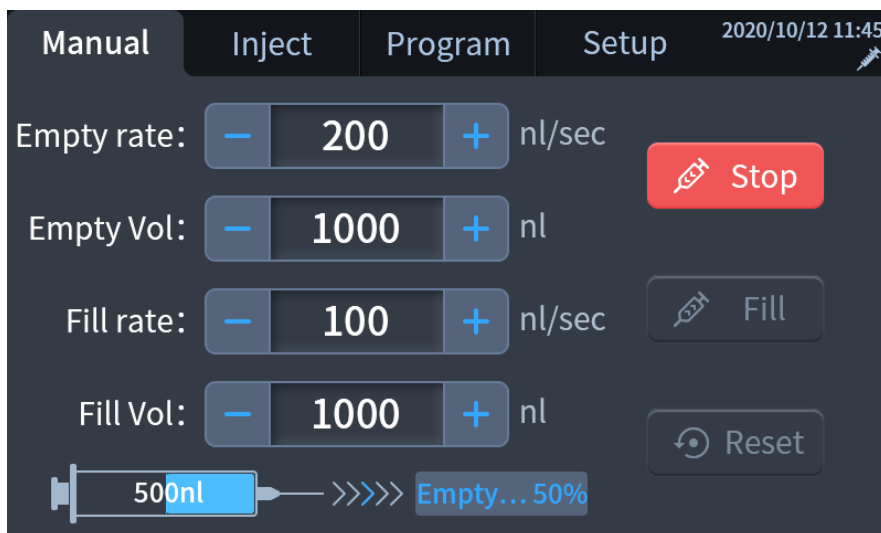

Figure 6-2
- 1) Click  to empty the backfilled mineral oil in the electrode to the target volume at the setting empty rate, as shown in Figure 6-2 to display the emptying progress in real time.